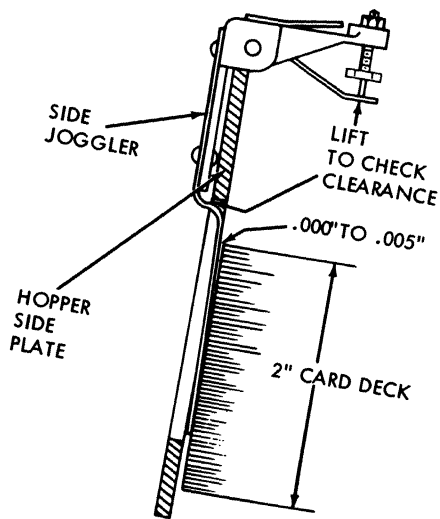

Figure 3-9. Side Joggler Adjustments
1. With a two-inch stack of cards in hopper, crank file feed drive until hopper jogger cam follower is on high dwell of cam. Set adjusting screw for .000" to .005" clearance between the top of deck and jogger arm. See Figure 3-9.
3. Lift side jogger arm at operating arm. See Figure 3-9. If interference exists, check distance between hopper side plates. See *Hopper and Picker Knives, Adjustment*.